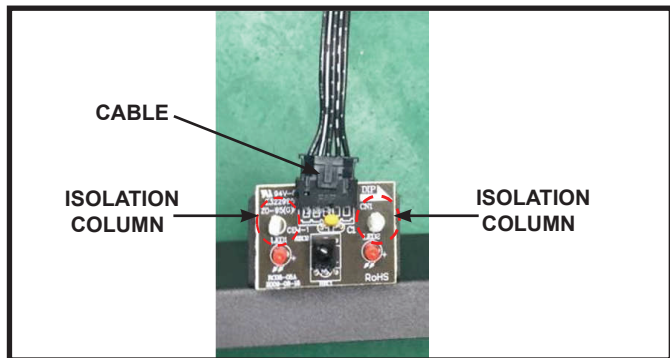

Figure 16 Receiver Board Cable
3. Unplug the cable, remove the Receiver Board and install with replacement board. See Figure 16.